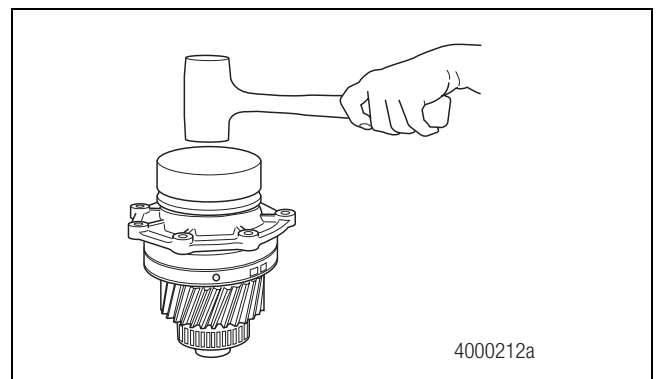

Figure 6.34
6. Install the input seal. Hold the sleeve and seal only on the outer diameter. Position the seal onto the input seal driver and align it with the shaft. Do not touch the lips in the inner diameter of the seal. Use a dead-blow hammer and the appropriate driver to install the seal onto the input bearing cage. Figure 6.34.